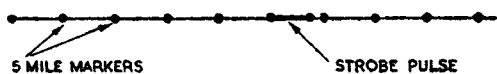

Fig. 45. Indicating unit Type 123: radar trace
- (1) Operate the TIMEBASE WIDTH control (timebase unit Type 42) to obtain the correct number of calibration pips on the radar (lower) trace (i.e., 15 pips for 75 miles, 30 pips for 150 miles). The first pip corresponds to a range of 5 miles.
- (2) Use the X SHIFT and VELOCITY controls on indicating unit Type 123 to align the calibrator pips with the range scale. There are two velocity controls behind the front panel at the left-hand side of the chassis: VELOCITY COARSE is a two-position switch, and VELOCITY FINE a potentiometer.
- (3) Rotate the STROBE control (console 1) until the brightened portion of the trace on indicating unit Type 123 lies on a calibrator pip at about the centre of the timebase.
- (4) Adjust EXPANSION WIDTH (timebase unit Type 42) so that the width of the expanded (brightened) portion of the timebase occupies a range of three miles. An estimate of this distance can be made by comparing the width of the trace from the end of the brightened portion to the next calibration pip with the distance occupied by two miles of normal trace.
- (5) Adjust EXPANSION (timebase unit Type 42) so that the three mile strobe occupies one centimetre of trace. The appearance of the correctly adjusted strobe is shown in *fig. 45*.